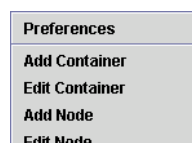

Figure 9. Edit > Add Node
1. Click *Edit > Add Node* (see figure 9).